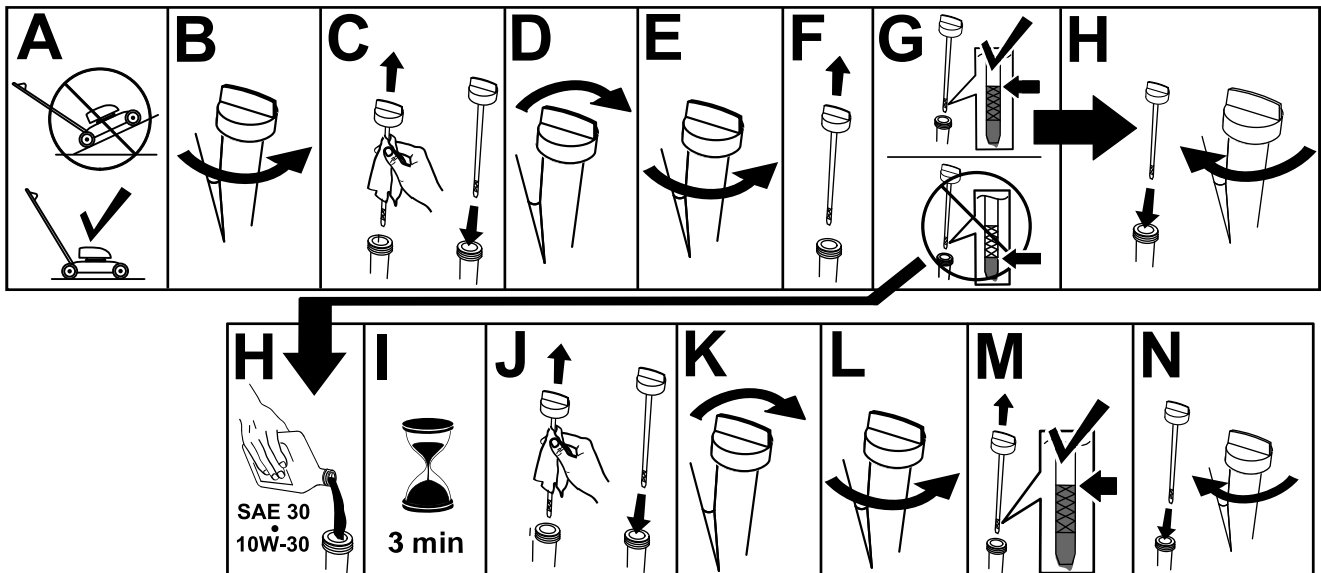

Figure 10
1. Raise and hold up the rear deflector (A of Figure 10).
2. Install the grass bag, ensuring that the pins on the bag rest in the notches on the handle (B of Figure 10).